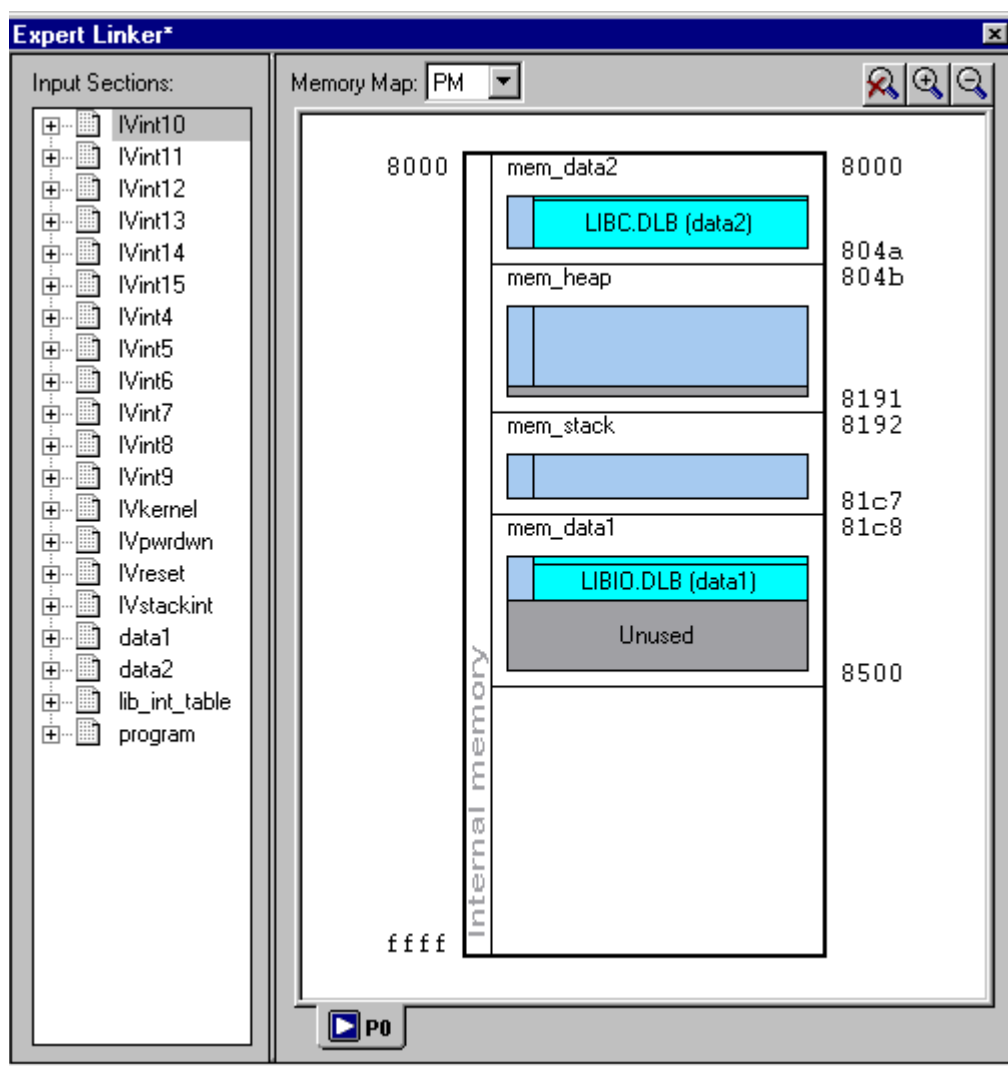

Figure 3-23. Memory Map Pane in Post-Link View
- To enable post-link view from the **Memory Map** pane, right-click and choose **View and Link Results (Post-Link)**. Figure 3-23 on page 3-32 illustrates memory map after linking.